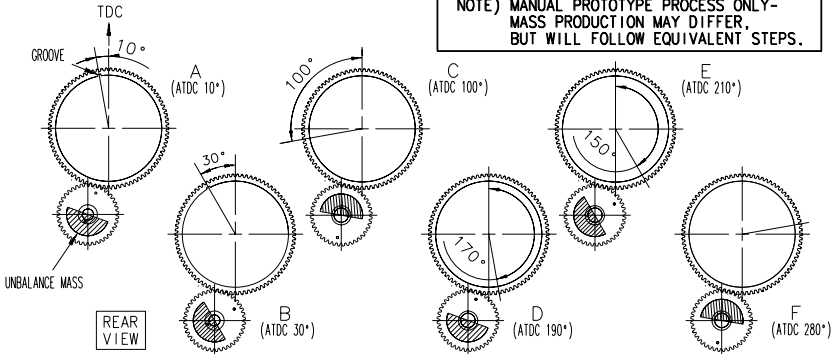

FIG. 2 BACKLASH MEASUREMENT LOCATION
2. ROTATE CRANKSHAFT AND TAKE IT TO THE POINT  $10^\circ$  AFTER TDC (FIG. 2 A). THEN FIX CRANKSHAFT.